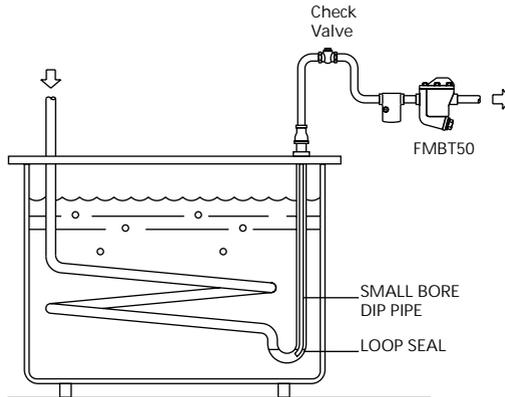

Figure 3 : FMBT50 trap draining in storage tank
7. If the trap has to be installed at a higher point than the drainage point then a small bore riser into a 'U' seal should be used. A check valve should be fitted before the steam trap to prevent the loss of the internal water seal. (Refer Fig. 3)